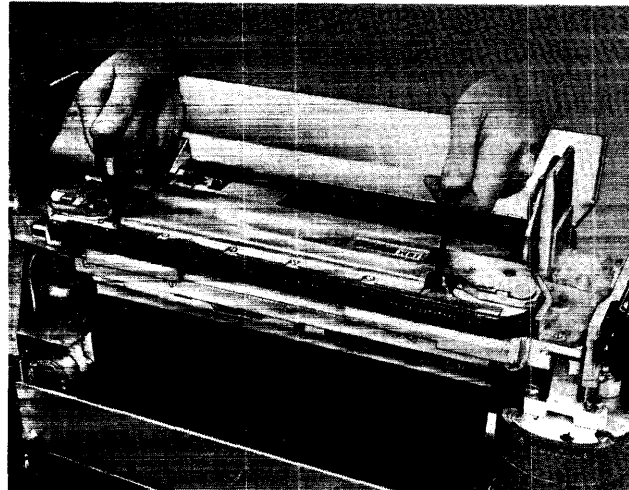

Figure 21. Interchangeable Train Cartridge, Models 3 and N1.
6. Pivot the two handles on top of the cartridge to their vertical position. The cartridge is unlocked and may be lifted free of the print unit by the handles (Figure 21).